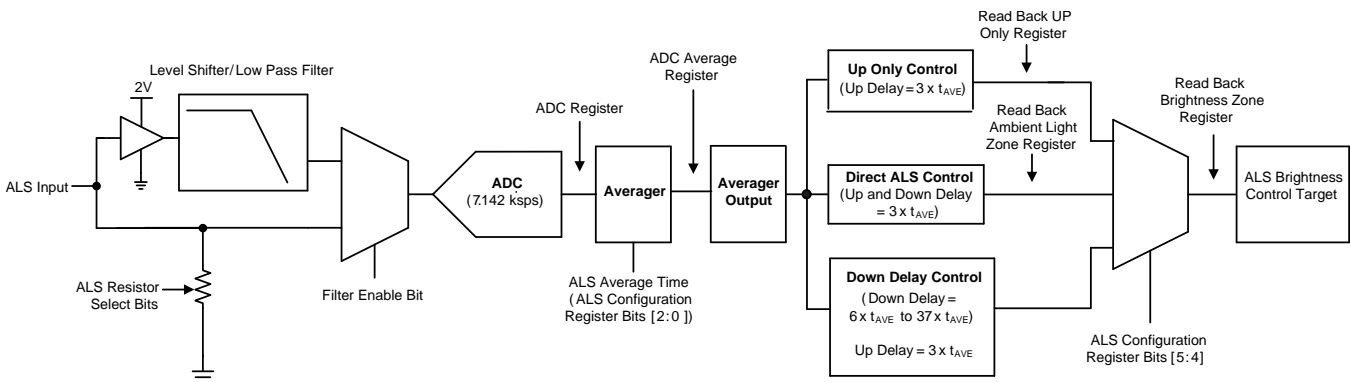
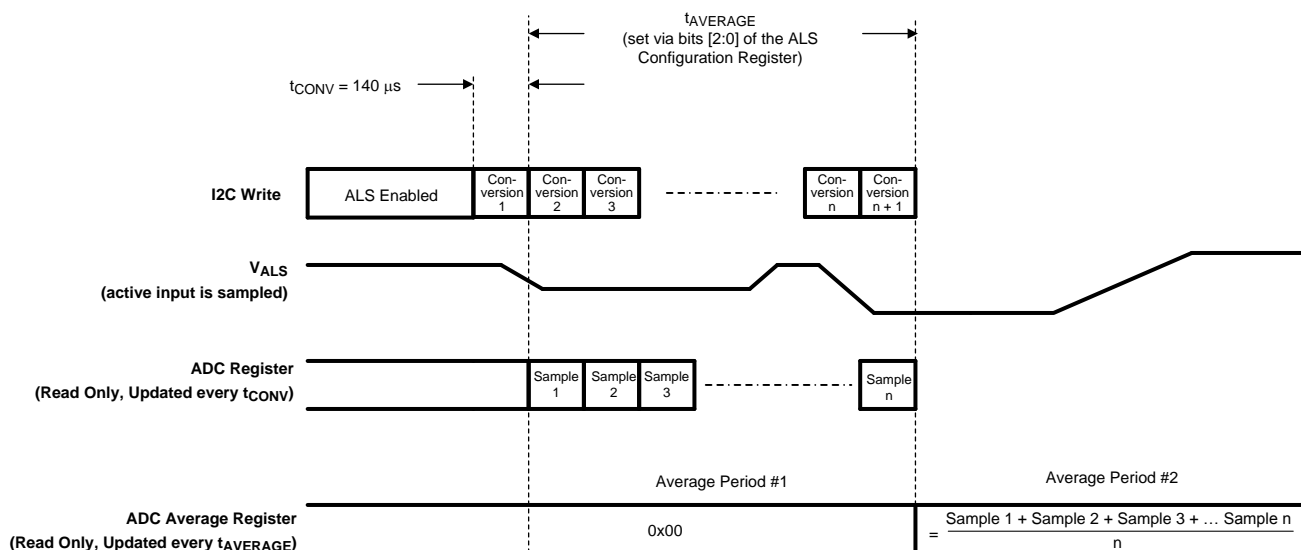

Figure 27. ALS Block Diagram
Figure 28. ADC Timing
Figure 27 shows the functional block diagram of the LM3533 device ALS interface.
The LM3533 digitizes the ALS voltage using an internal 8-bit ADC. The ADC is active as long as the ALS enable bit is set. Once set, the ADC begins sampling and converting the voltage at the ALS input at 7.142 ksps. The ADC output can be read back via the ADC register (address 0x37). With the ALS enable bit set, the ADC register is updated every 140 μ s. Figure 28 details the timing of the ADC.
Once digitized the output of the ADC is sent into the ALS averager. The averager computes the average of the number of samples taken over the programmed average period. The ALS average times are set via bits [5:3] in the ALS Configuration Register. The output of the ALS average can be read back via the ADC Average register (address 0x38). With the ALS Enable bit set, the ADC Average register is updated after each average period (see Figure 28). After every average period the Averager Output stores the information for which brightness zone the ALS input voltage resides in (see Figure 27).
5. The Averager Output (see Figure 27) contains the zone that is determined from the most recent full average period.